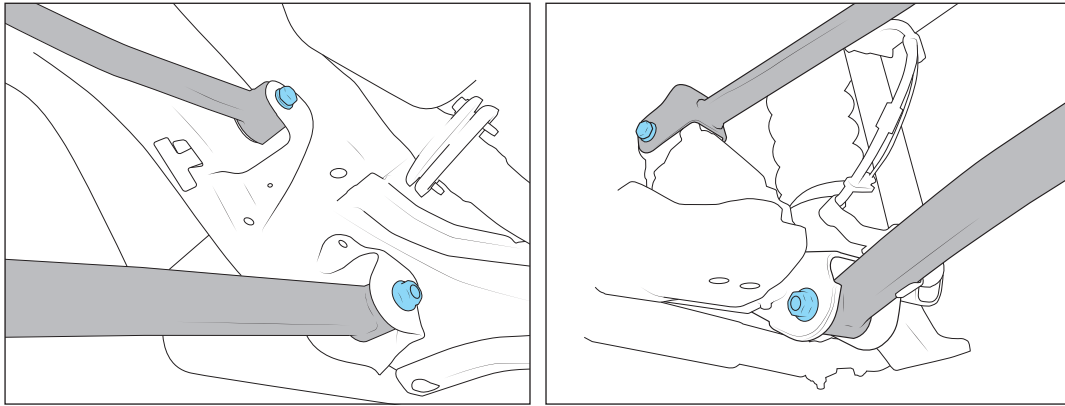

Figure 1: Frame-side (left) Axle-side (right).
2. **WORK ON ONE SIDE AT A TIME!** If not already done from previous suspension work, loosen all 8 upper and lower control arm bolts. Remove the upper and lower control arm bolts at the frame end and save the factory hardware (Fig 1)